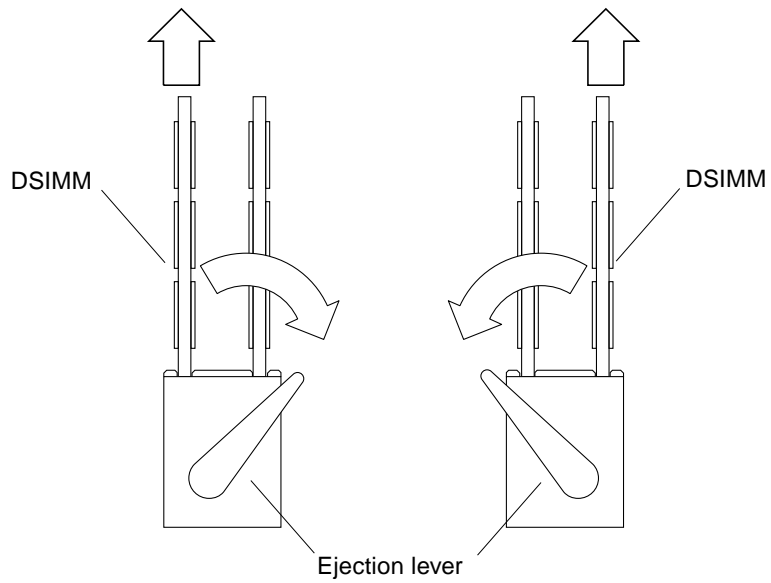

FIGURE 10-21 DSIMM Ejection Lever
5. Push the lever away from the DSIMM (FIGURE 10-21).